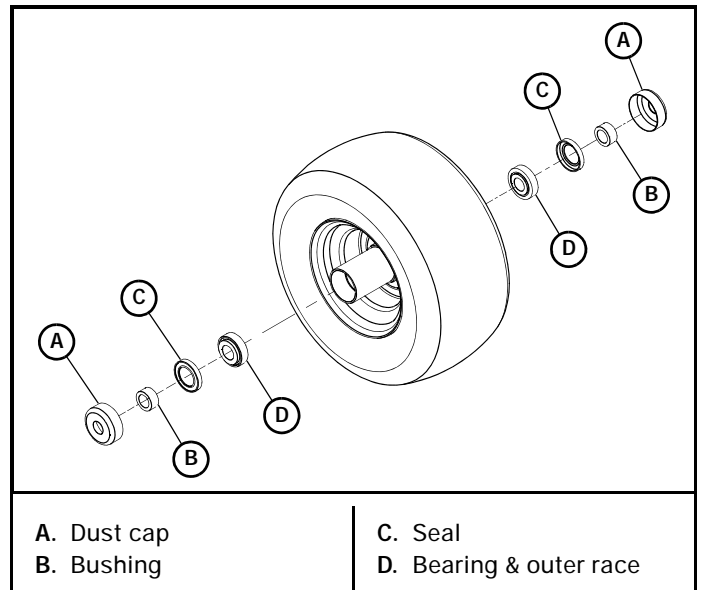

Figure 4-29
5. Insert the bushings through the seal openings and push them in until they contact the tapered roller bearings. Figure 4-29
6. Push the dust caps onto the wheel housing. Figure 4-29